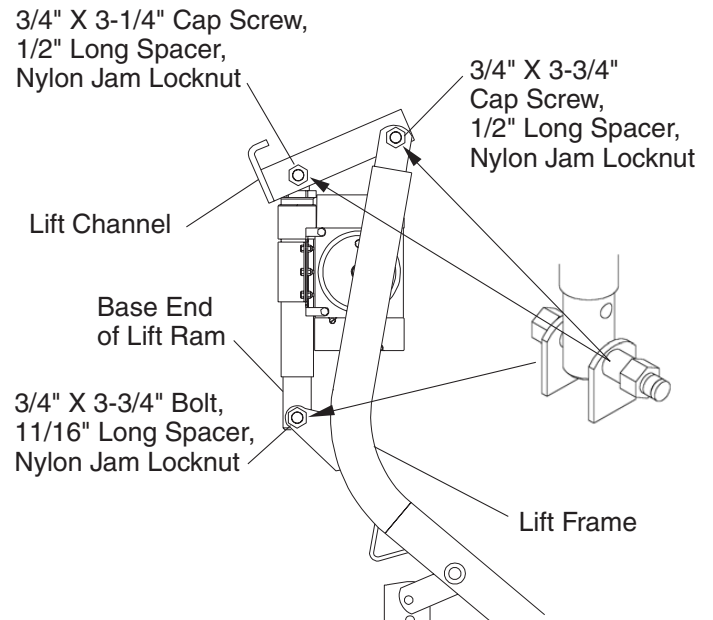

Figure 15
1. Place the hole end of the lift channel between the lugs of the upper U-bracket on the lift frame. Insert a 3/4" x 3-3/4" bolt and secure with a 1/2" long spacer and nylon jam locknut. (Refer to Figure 15.)
- Position the hydraulic unit with the nameplate facing the blade. Place the base end of the lift ram into the hole of the bracket on the lift frame and secure with a 3/4" x 3-3/4" cap screw, 11/16" long spacer, and nylon jam locknut. (See Figure 15.)